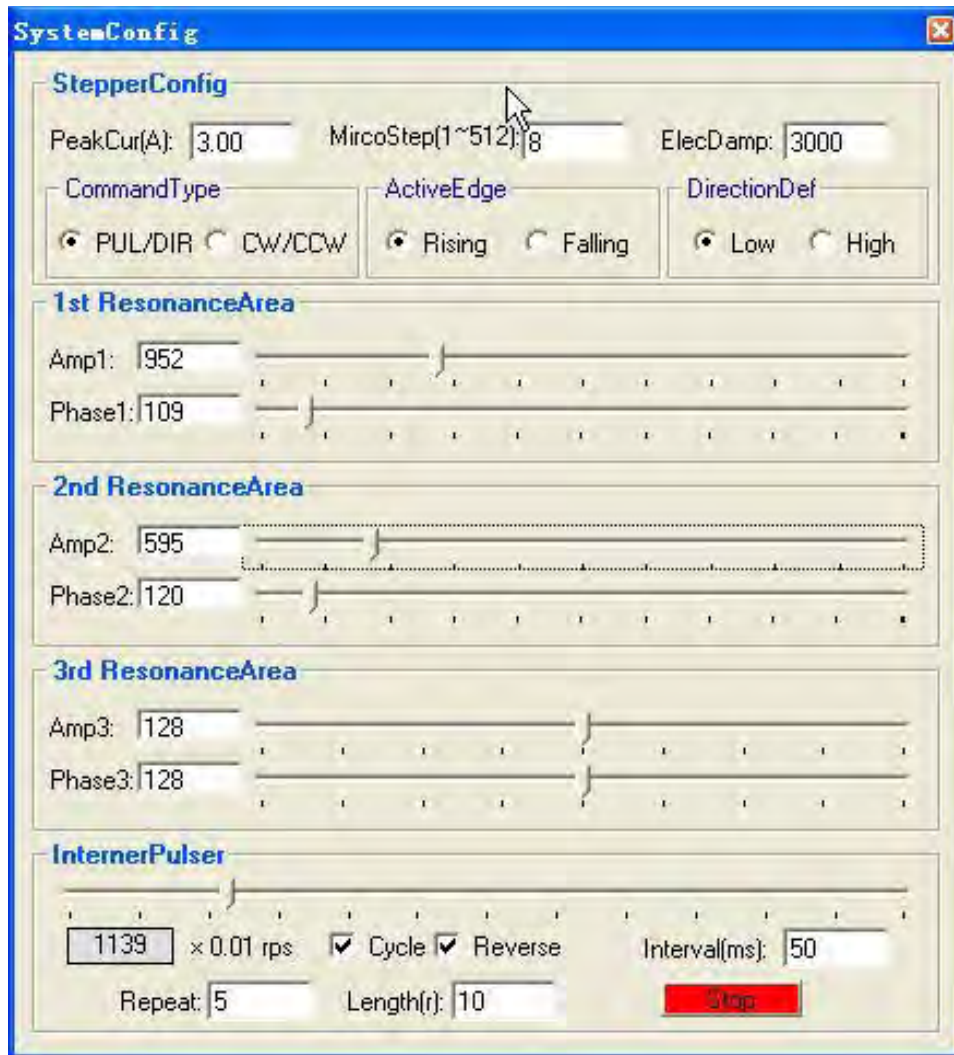

Figure 26: Anti-resonance tuning
Step 1: Start the motion test by clicking **Start/Stop** button. Find a resonance speed by slightly moving the slider bar of internal pulse generator back and forth. See Figure 26.